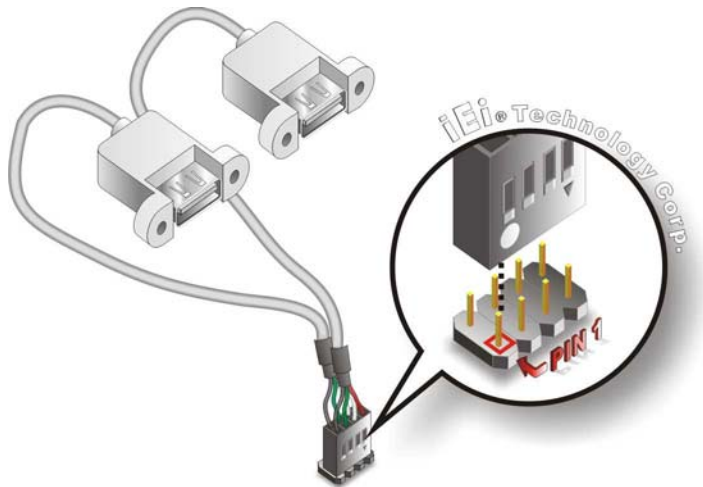

Figure 5-13: Dual USB Cable Connection
Step 3: Insert the cable connectors. Once the cable connectors are properly aligned with the USB connectors on the WAFER-CX700M, connect the cable connectors to the on-board connectors. See **Figure 5-13**.